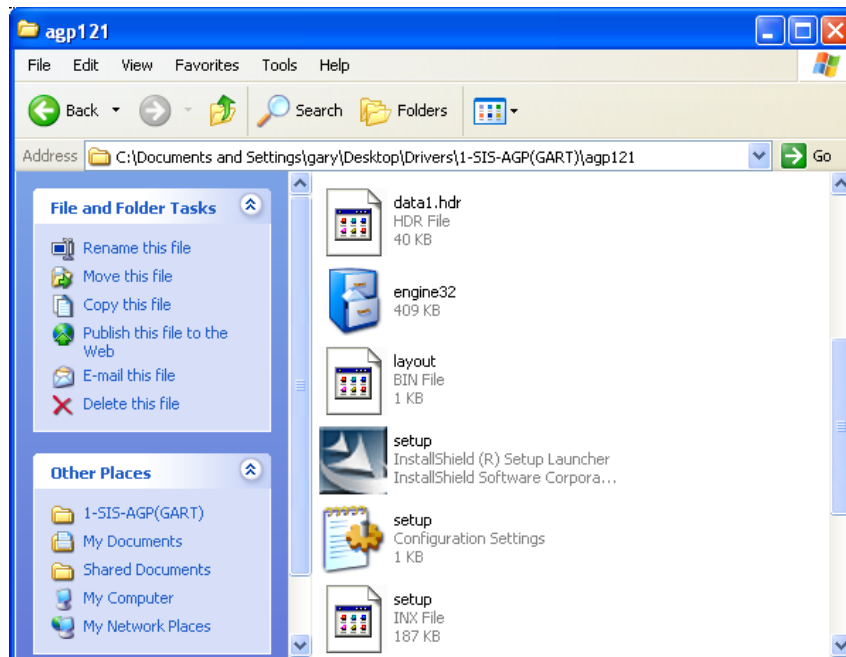

Figure 7-4: AGP Driver Setup Icon
Step 4: The window in **Figure 7-4** appears.
Step 5: Double click the **Setup** icon in **Figure 7-4**.